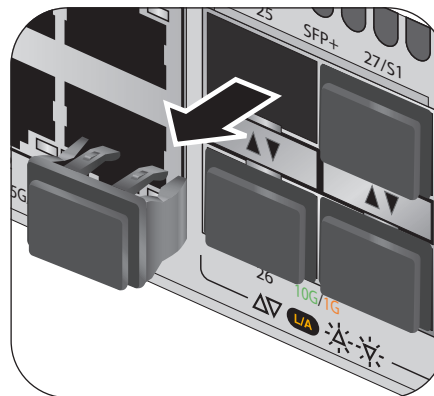

Figure 44. Removing the Dust Plug from an SFP Slot
2. If the slot has a dust cover, remove it. Refer to Figure 44.